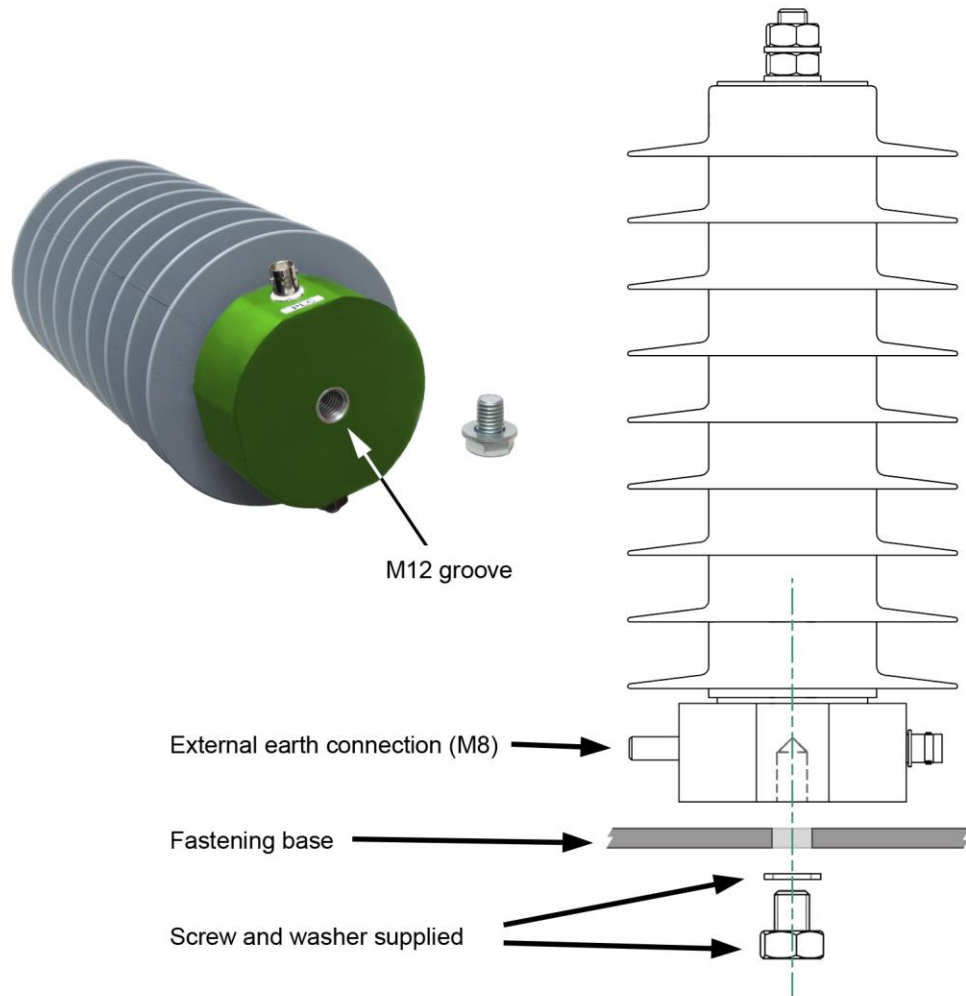

Figure 4 Coupling unit fixing
1. Drill a hole for a M12 screw (see Figure 4) in the prefabricated metallic structure, cell fittings or wall or ground of the metallic cell.